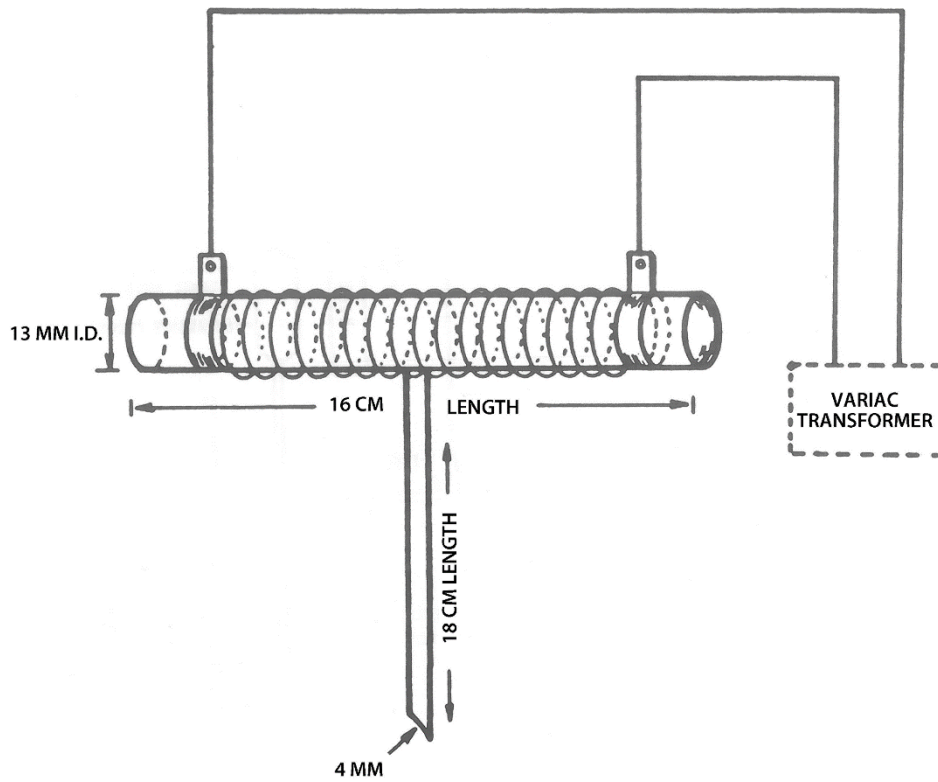

FIGURE 3. Quartz Furnace Atomization Cell.
6. Atomic absorption spectrophotometer (reciprocal linear UV dispersion 0.65 nm/mm); As electrodeless discharge lamp and power supply; and atomization cell (16-cm x 13-mm ID windowless quartz tube with 18-cm x 4-mm ID inlet tube fused in the center), wound with Nichrome wire (14 Ω/m, spaced 2 to 3 mm between turns and wrapped with heat resistant tape) (Figure 3). Temperature in the cell is measured by a thermocouple (800 °C). Mount the cell on top of a single-slot AAS burner head and align with burner alignment controls.